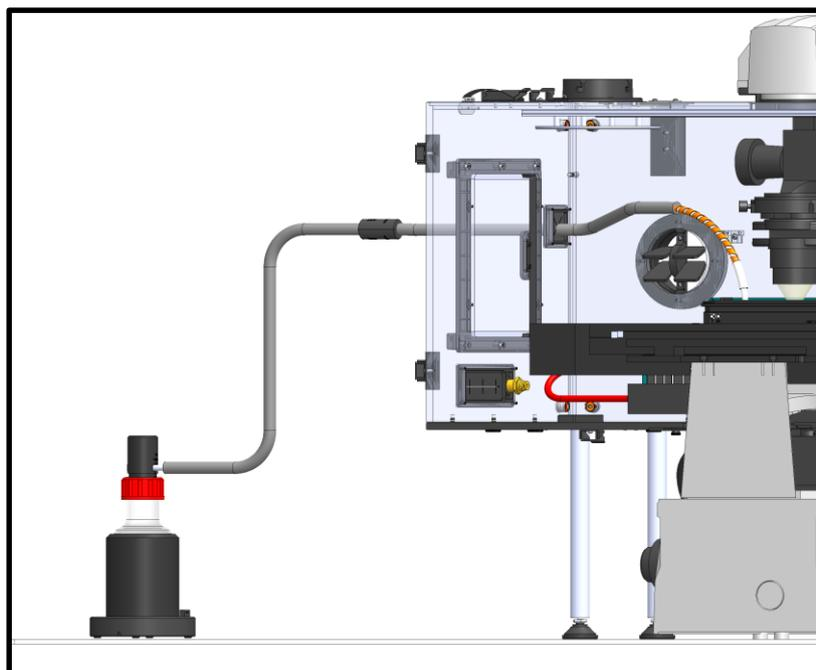

Figure 71. Tubing connection inside the Enclosure with HM-ACTIVE
- I. **HM-ACTIVE tubing connection inside the Enclosure.** If you have purchased also a digital gas mixer including HM-ACTIVE as humidity module, you have to connect the heated tube of HM-ACTIVE to the Chamber Incubator. See Figure 71.